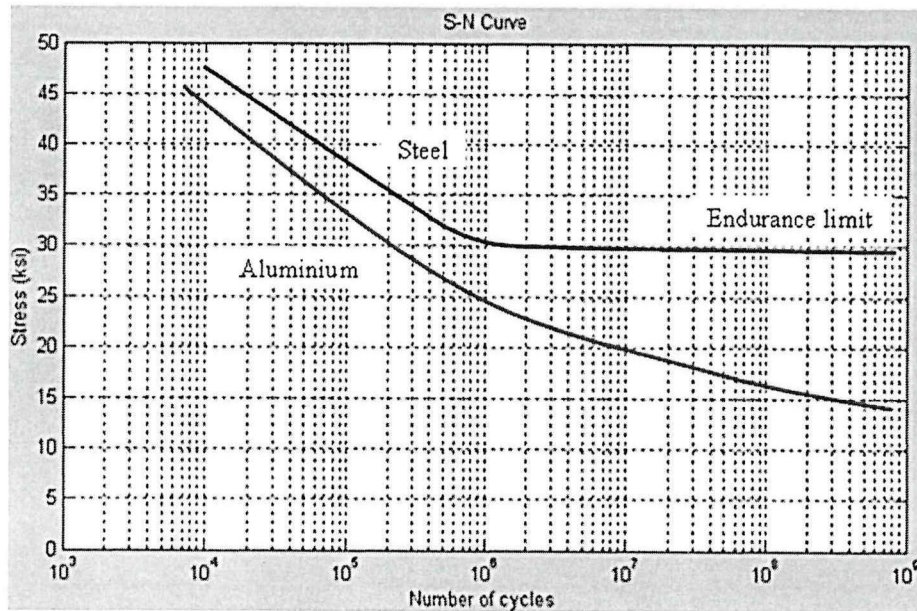

Figure Q4
- (c) **Figure Q4** shows the S-N diagram of steel and aluminium. If a structural element is to undergo a repeated cyclic stress of 35 ksi over its life time,